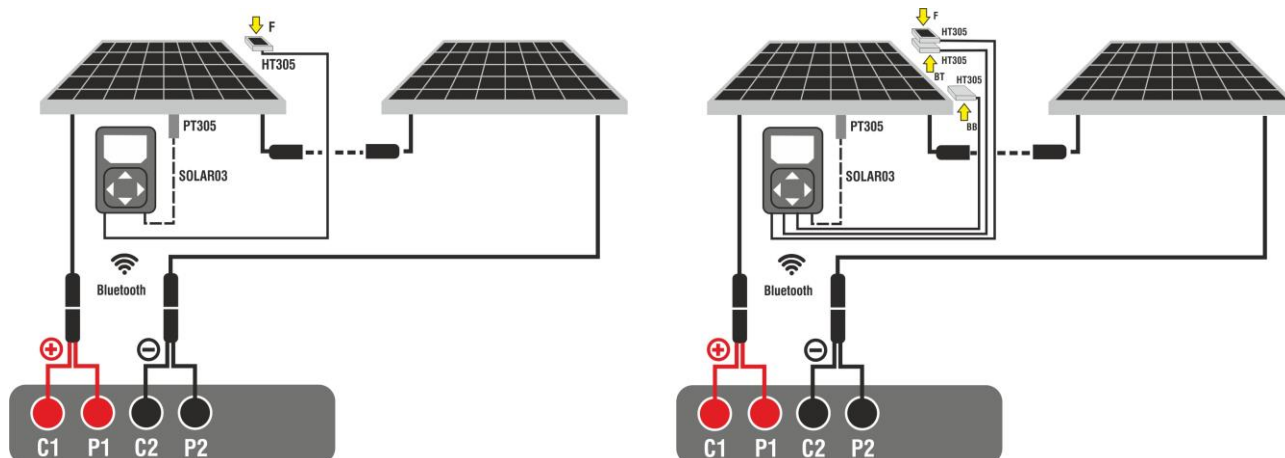

Fig. 53: Connection with remote unit SOLAR03 on Monofacial and Bifacial modules
3. Connect the instrument and the SOLAR03 remote unit to the module/string being tested as shown in Fig. 53. In detail:
- **In case of Bifacial modules** →, position the **three HT305 reference cells** on the front surface of module (**F**), on the top back section (**B T=BackTop**) and on the bottom back section (**BB=BackBottom**) of the module. Connect the front reference cell (F) to input "INP1", BT reference cell to input "INP2", BB reference cell to input "INP3" and **possibly** the temperature probe **PT305** to input "INP4" of the remote unit.
14. Bring the remote unit close to the modules and connect the irradiance/temperature probes as shown in Fig. 53. **As the recording has already been activated on the SOLAR03 remote control unit, it is no longer necessary to maintain the Bluetooth connection.** Maintaining the connection will only allow to immediately obtain the outcome of the test without waiting for the measuring campaign to be completed.